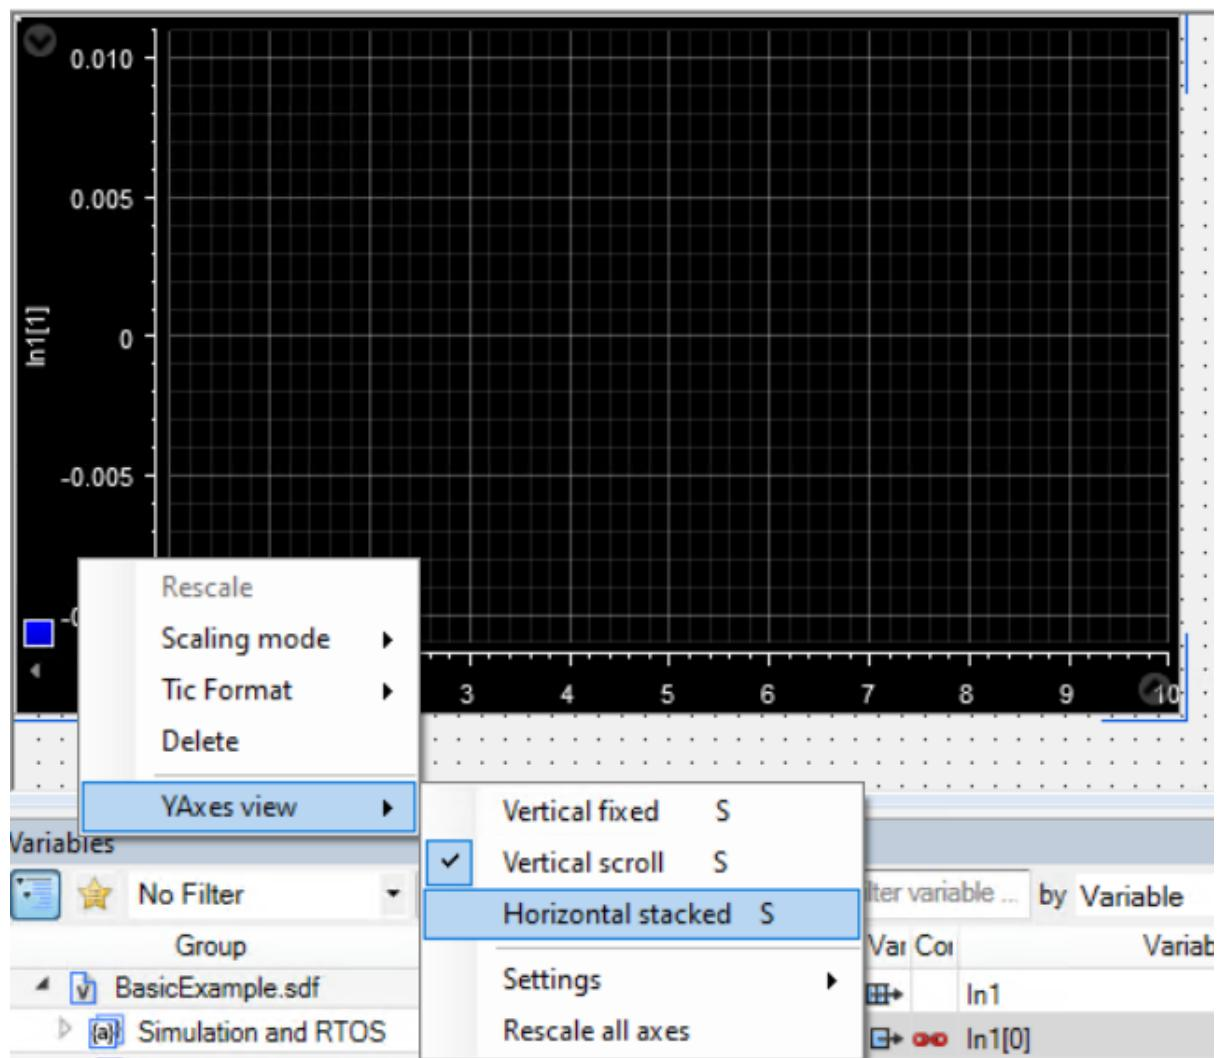

Figure 13.82: Select to show all the signals on the same plot with their own Y-axes
- 8) To see all the plots concurrently right-click on the left of the Y-axis and select `YAxes-view> Horizontal stacked` (see Figure 13.82).